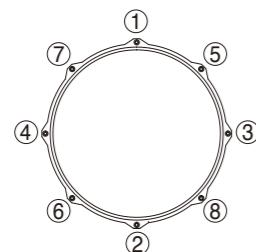

Fig. 1-1B
- * Tighten the tension bolts evenly by tightening each one a little and then moving to the next according to Fig. 1-1B. First, tighten each tension bolt by hand. Then, using the tuning key, tighten further – but again, only a little at a time, moving from bolt to bolt according to the pattern shown in Fig. 1-1B.